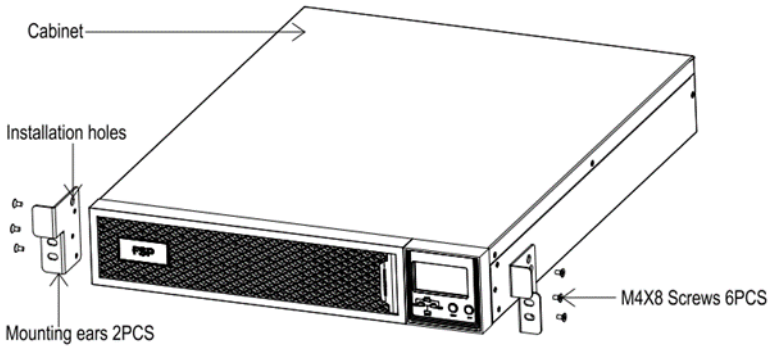

Figure 5-7 Install the mounting ears
- 1) Take out the mounting ears (2 pieces) and M4×8 screws (6 pieces) from the accessories, and fix the mounting ears to the cabinet with the screws through the installation holes, as shown in Figure 5-7.